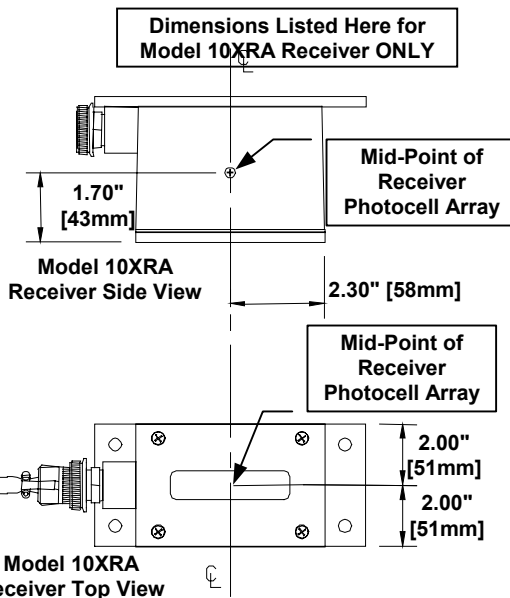

Figure C.4-9: Receiver Photocell Mid-Point for Model 10XRA Receiver
- 3) Determine the mid-point of the receiver photocell {Figure C.4-9}.
3) Determine the mid-point of the receiver photocell {Figure C.4-9}. If not already marked from the factory, mark this point on the receiver housing side approximately 1.7 inches [43mm] from the receiver face.